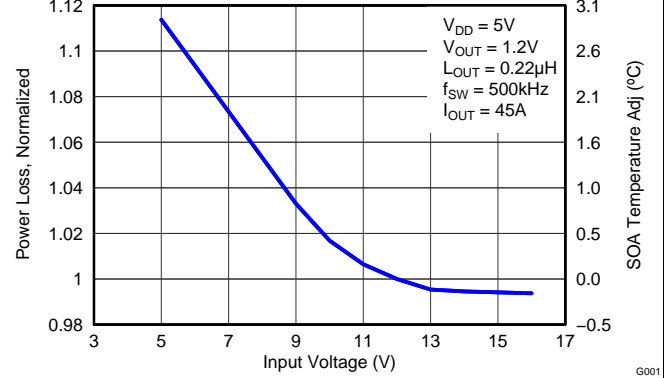

Figure 7. Normalized Power Loss vs Input Voltage
- Normalized Power Loss for input voltage ≈ 1.07 (Figure 7)
- SOA adjustment for input voltage $\approx 1.9^\circ\text{C}$ (Figure 7)